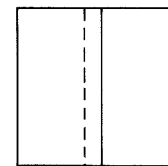

Figure 2.7
2. Position the metal so that the joint to be welded is in the vertical position. (See Figure 2.7.)